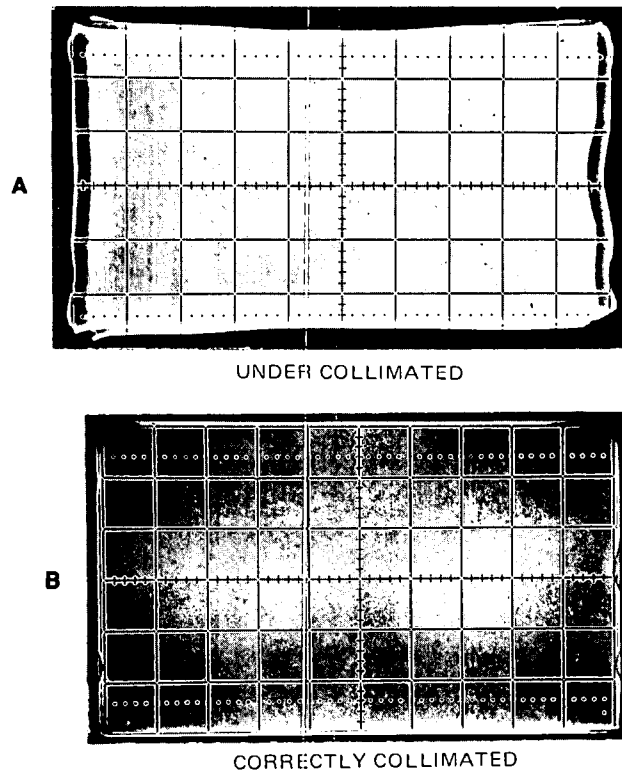

Figure 5-1. Collimator Pattern Adjustment
a. Turn COLL ADJ A17R115 clockwise until edges of pattern just fill CRT viewing area. (This should be done while alternately erasing pattern.) See figure 5-1 for proper display.